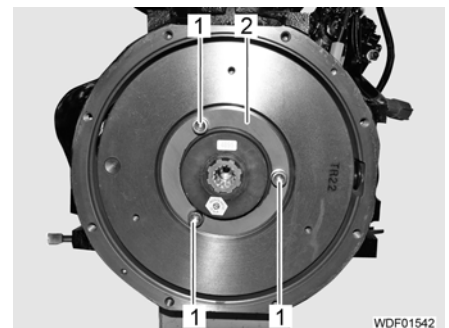

Fig. 111 Fastening of the coupling flange
- Attach coupling flange (Fig. 111,2).
- Screw in 3 bolts (Fig. 111,1) with spring washers and tighten.